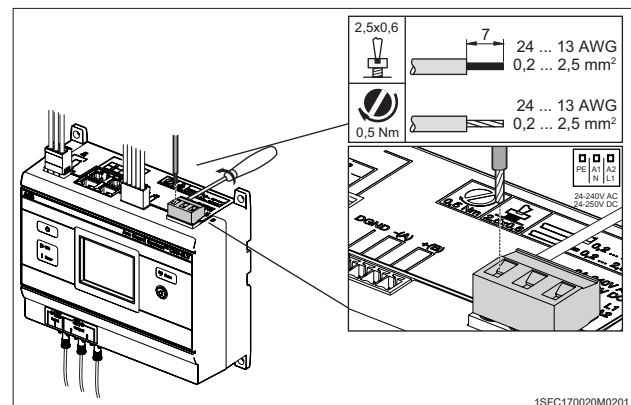

Figure 9
4. Connect the cable for power supply 24-240V AC / 24-250V DC. See **Figure 9**.